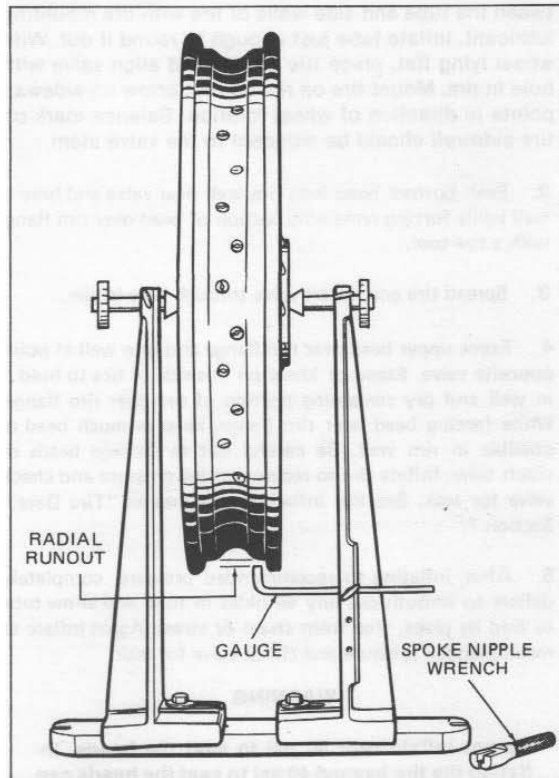

Figure 2-18. Truing Rim Radially
5. See Figure 2-18. After rim has been centered sideways it must be checked and trued radially. Adjust truing stand gauge to the rims tire bead seat as shown. The rim should be trued within $1/32$ ".